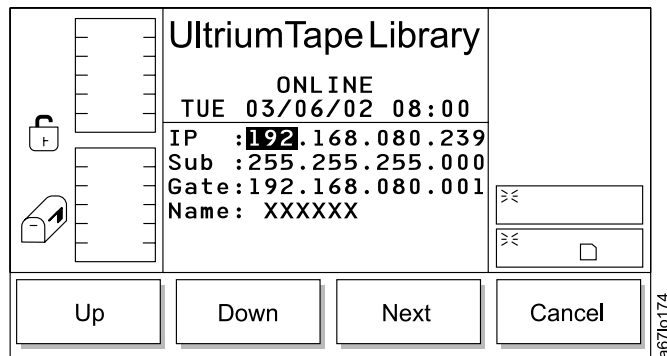

Figure 144. RMU Dialog
- If **RMU** is selected, the RMU Dialog displays (see Figure 144 on page 124).